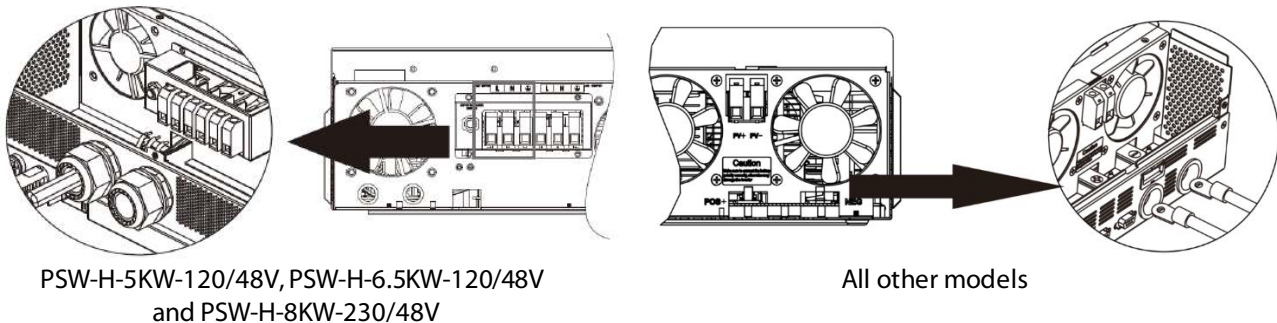

Fig. 6: Battery connection
- Remove the pre-installed nuts from the battery terminal bolts. Insert the ring terminal of the battery cables through the casing holes (cable glands for 120 Vac models) and flat onto the corresponding battery terminal (**Fig. 6**). Screw down the previously removed nuts with a torque of 5 Nm, 3.7 lbf-ft (PSW-H-5KW-120/48V, PSW-H-6.5KW-120/48V and PSW-H-8KW-230/48V) or 2 ~ 3 Nm, 1.5 ~ 2.2 lbf-ft (all other models). Ensure the ring terminals sit flush on the connectors.